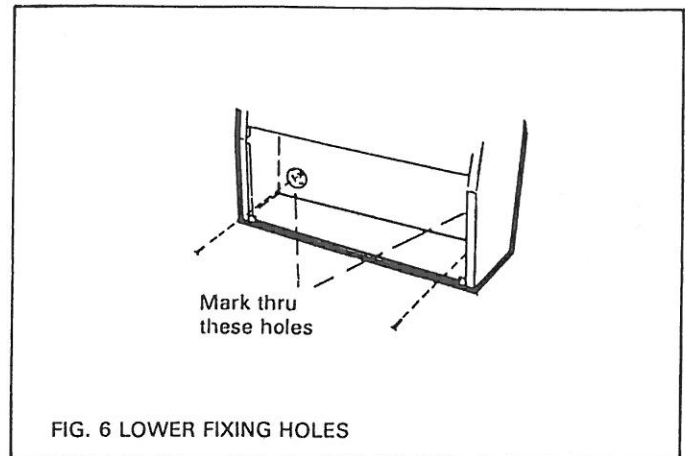

FIG. 6 LOWER FIXING HOLES
7. Mark the wall at the lower fixing centers through the holes in the recesses near the bottom of the heater rear panel (fig. 6).